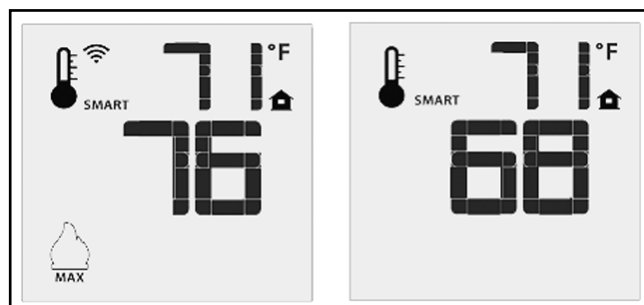

Figure 110: Remote Control's Smart Flame Function.
The Proflame GTMFS has six (6) flame levels. With the system on, and the flame level at the maximum in the appliance, pressing the Down Arrow Key once will reduce the flame height by one step until the flame is turned off. The Up Arrow Key will increase the flame height each time it is pressed. If the Up Arrow Key is pressed while the system is on but the flame is off, the flame will come on in the high position (refer to Figure 110). A single “beep” will confirm reception of the command.
**Transmitter:** The life span of the remote control batteries depends on various factors: quality of the batteries used, the number of ignitions of the appliance, the number of changes to the room thermostat set point, etc. When the Transmitter batteries are low, a Battery Icon will appear on the LCD display of the Transmitter (see Figure 110) before all battery power is lost. When the batteries are replaced this icon will disappear.